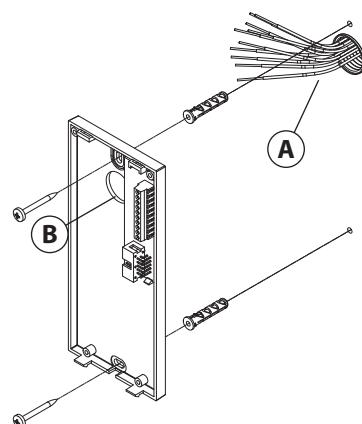

Fig. 5
- Connect ribbon cable plug **D** from the front plate into plug **E** on the pcb connection board as shown in **Fig. 5**.